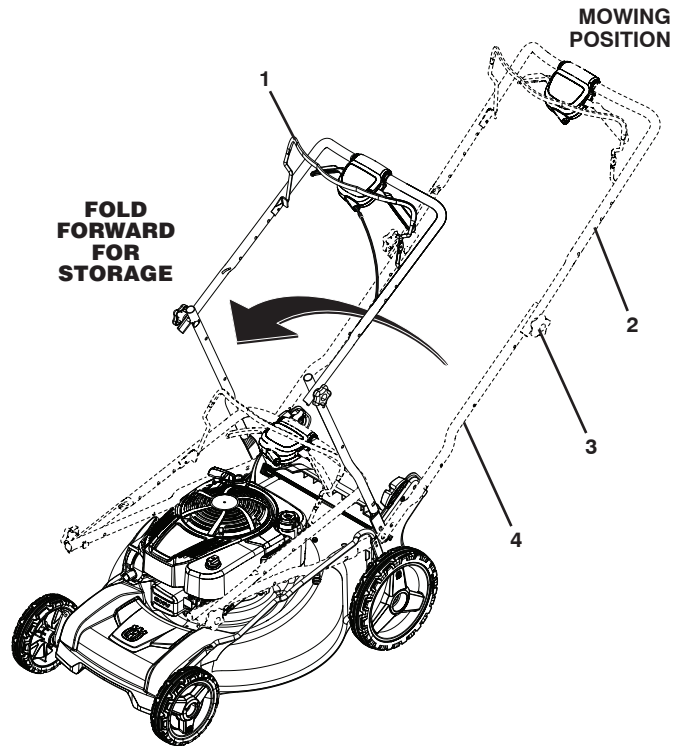

Figure 29
1. Loosen the two (2) handle knobs on sides of the upper handle and allow handle to fold down to the rear (Figure 29).